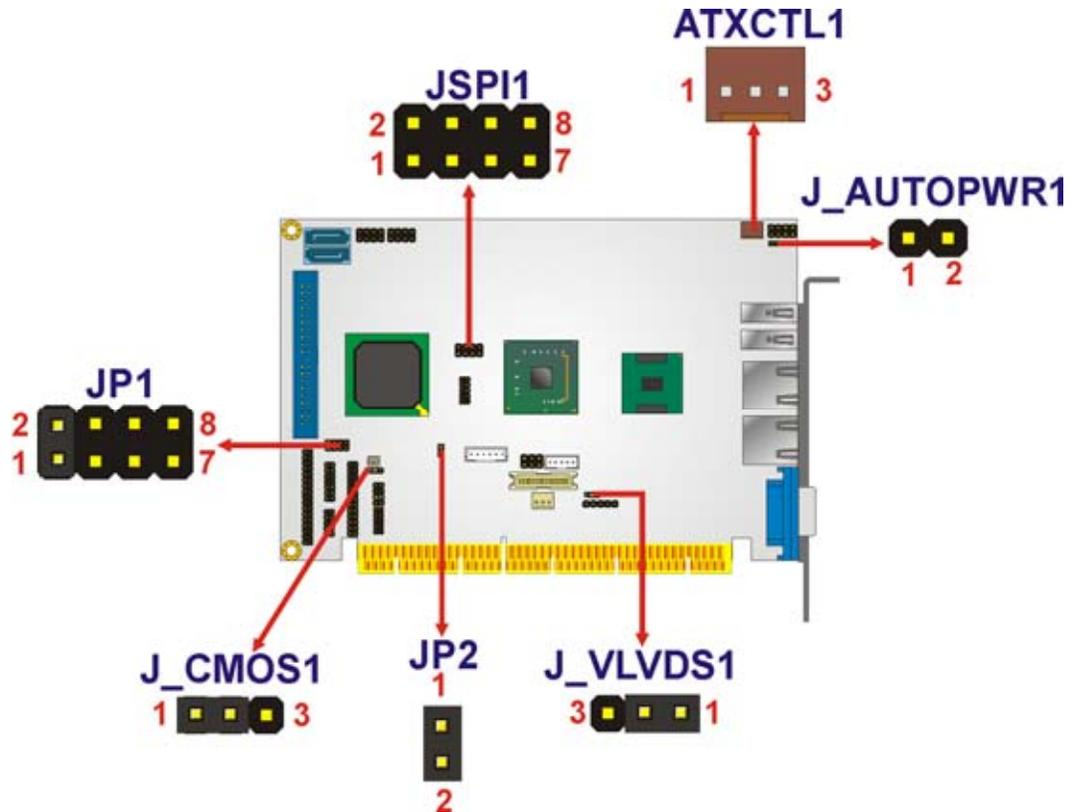

Figure 4-4: Jumper Location
- Jumper Location:** See Figure 4-4
Jumper Location:	See Figure 4-4